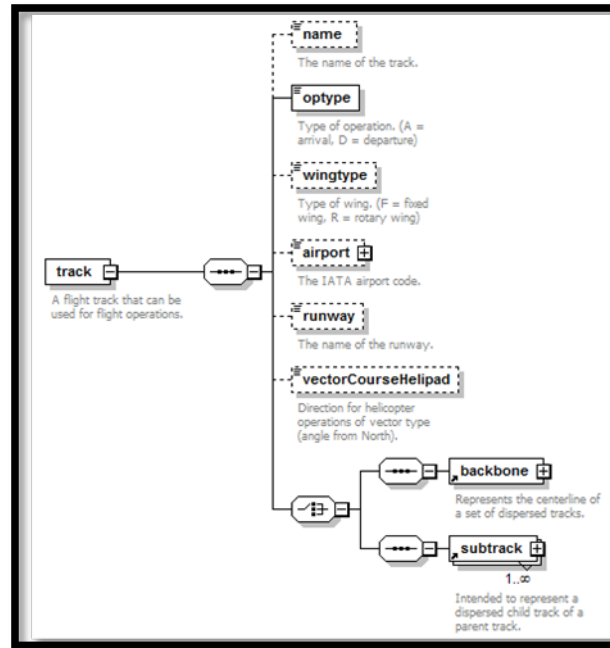

Figure 73. ASIF element – track
15. **AsifXml/trackOpSet/track** (Figure 73):